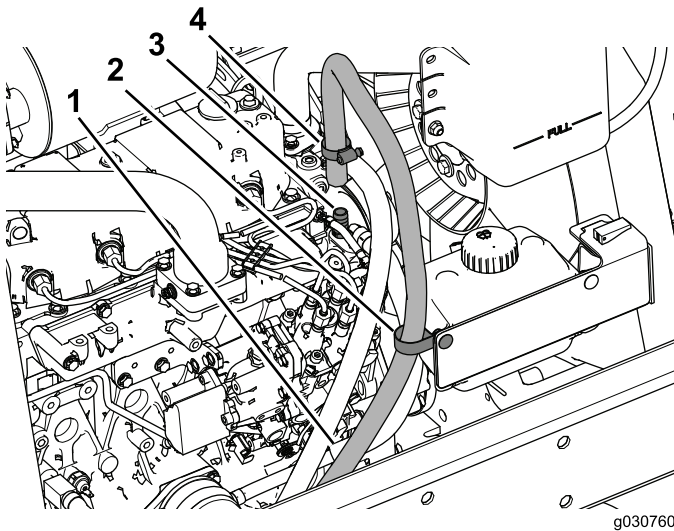

Figure 38
6. Slide the hose-clamp over the return hose and then insert the hose over the fitting (3/8 NPT x 0.625 barb) as shown in Figure 38.